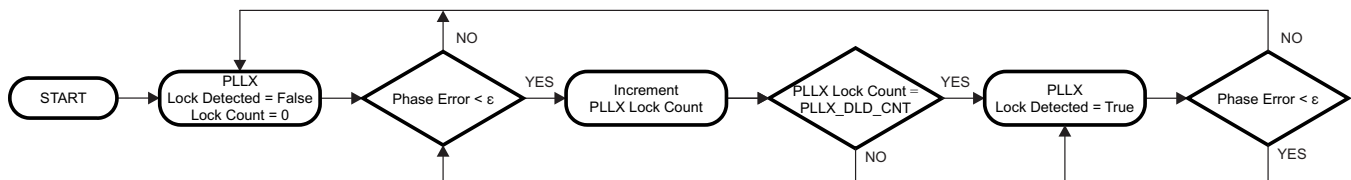

Figure 13. Digital Lock Detect Flowchart
Both PLL1 and PLL2 support digital lock detect. Digital lock detect compares the phase between the reference path (R) and the feedback path (N) of the PLL. When the time error, which is phase error, between the two signals is less than a specified window size (ϵ) a lock detect count increments. When the lock detect count reaches a user specified value, `PLL1_DLD_CNT` or `PLL2_DLD_CNT`, lock detect is asserted true. Once digital lock detect is true, a single phase comparison outside the specified window will cause digital lock detect to be asserted false. This is illustrated in Figure 13.